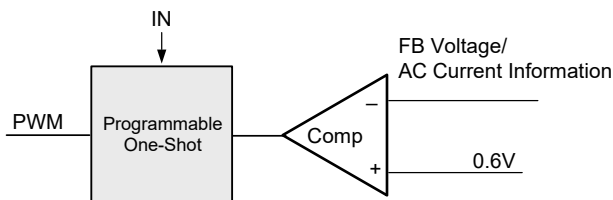

Figure 3. Simplified Control Schematic of AOZ2262NQi-12
The simplified control schematic is shown in Figure. 3. The high-side switch on-time is determined solely by a one-shot whose pulse width can be programmed by one external resistor and is inversely proportional to input voltage (IN). The one-shot is triggered when the internal 0.6V is higher than the combined information of FB voltage and the AC current information of inductor, which is processed and obtained through the sensed lower-side MOSFET current once it turns-on. The added AC current information can help the stability of constant-on time control even with pure ceramic output capacitors, which have very low ESR. The AC current information has no DC offset, which does not cause offset with output load change, which is fundamentally different from other V² constant-on time control schemes.